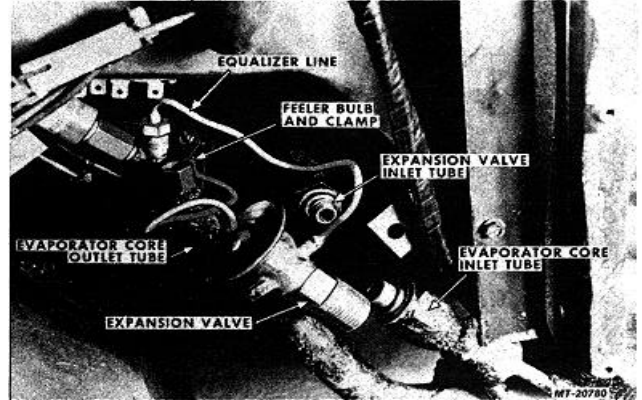

Fig. 49 Removing Expansion Valve
8. Disconnect expansion valve equalizer line from fitting on evaporator outlet tube (Fig. 49).